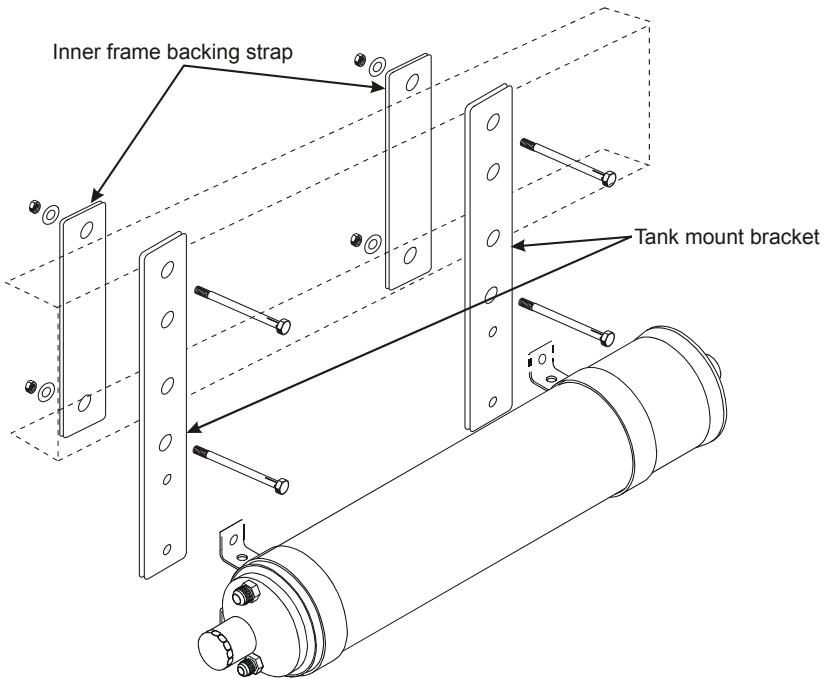

Figure 2.2
- Place an inner frame backing strap in position inside the frame, Insert a bolt through the top hole in the bracket, through the backing strap and install washers and a nut (Figure 2.2).